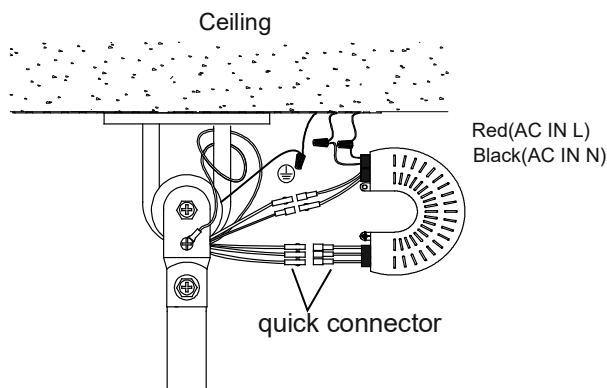

Fig.9
7. Connect wires: As shown in the below (Fig.9)